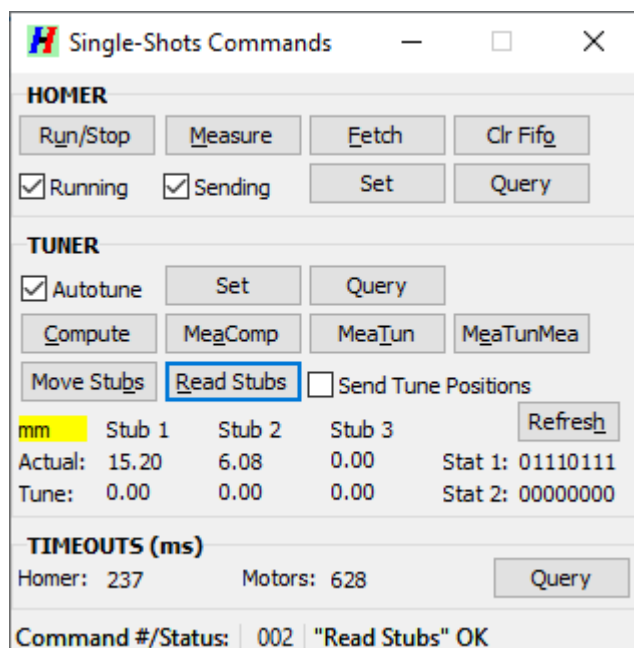

Figure 59. Single-Shot Commands window.
**Single-Shot Commands** window (Figure 59) can be opened by clicking **View**|**Single-Shots Commands** menu item. The window contains a group of specialized Homer commands, most of which trigger execution of one Measure-Tune-Send sequence (or its part); hence the adjective Single-Shot.